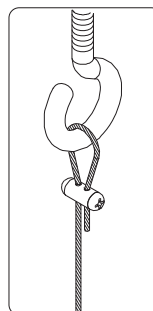

Figure 7
5) If using open style hook- Place adjustable end of cable assemblies onto ceiling hooks- (see Fig. 7).